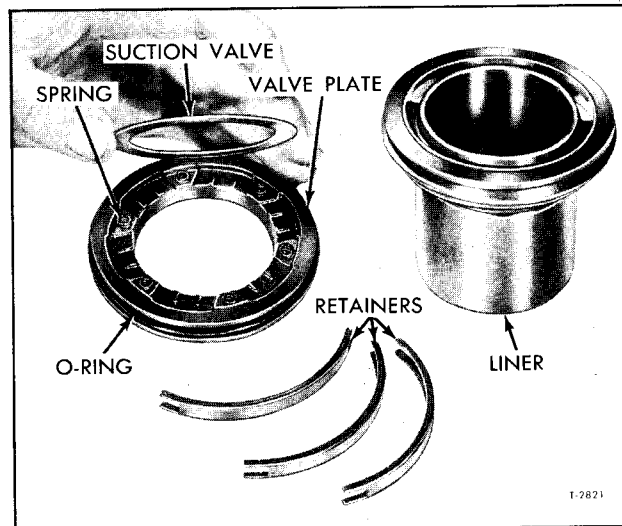

Figure 38—Removing Suction Valve Components
2. Lift the liner away from the valve assembly and remove the suction valve (43) as shown in figure 38. Remove valve springs (44) and O-ring (47) from valve plate (45).